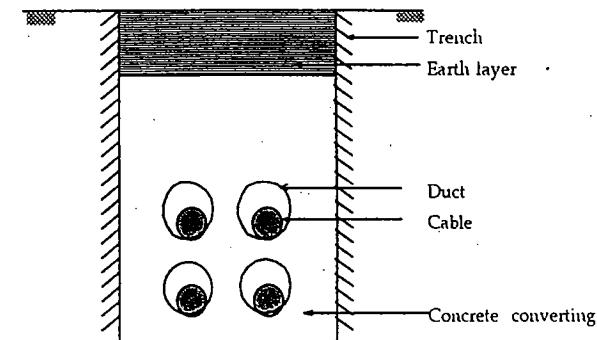

Fig. 3.12 Draw-in-system.
2) Draw in system: In this system of laying duct or conduit of cast iron or concrete or glazed stone are laid along the route of cable. In between these conduit man holes are made. From the manholes cables are pulled into conduit during installation and repair. Fig. 3.12 shows section of draw in system for four cables. According to the requirements the system can be of single duct or multiduct. This method of cable laying is used in the cities and areas where excavation is expensive and inconvenient. This method is generally used for small distance of laying, like road crossing, workshop etc. Where once the conduits have been laid, repair and alteration can be easily done through manholes without opening the ground. The span between the manholes should not be too long to make pulling of cable easier. The cable used in this system need not be armoured but it must be provided with serving.